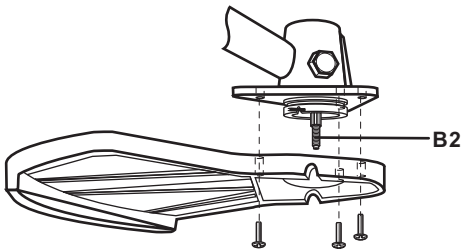

Fig. 5
5. Place the cutting guard (B3) onto the support and fix it with the screws by using the Torx screwdriver (E3). Pay attention to the alignment of the cutting guard. (See Fig. 5)